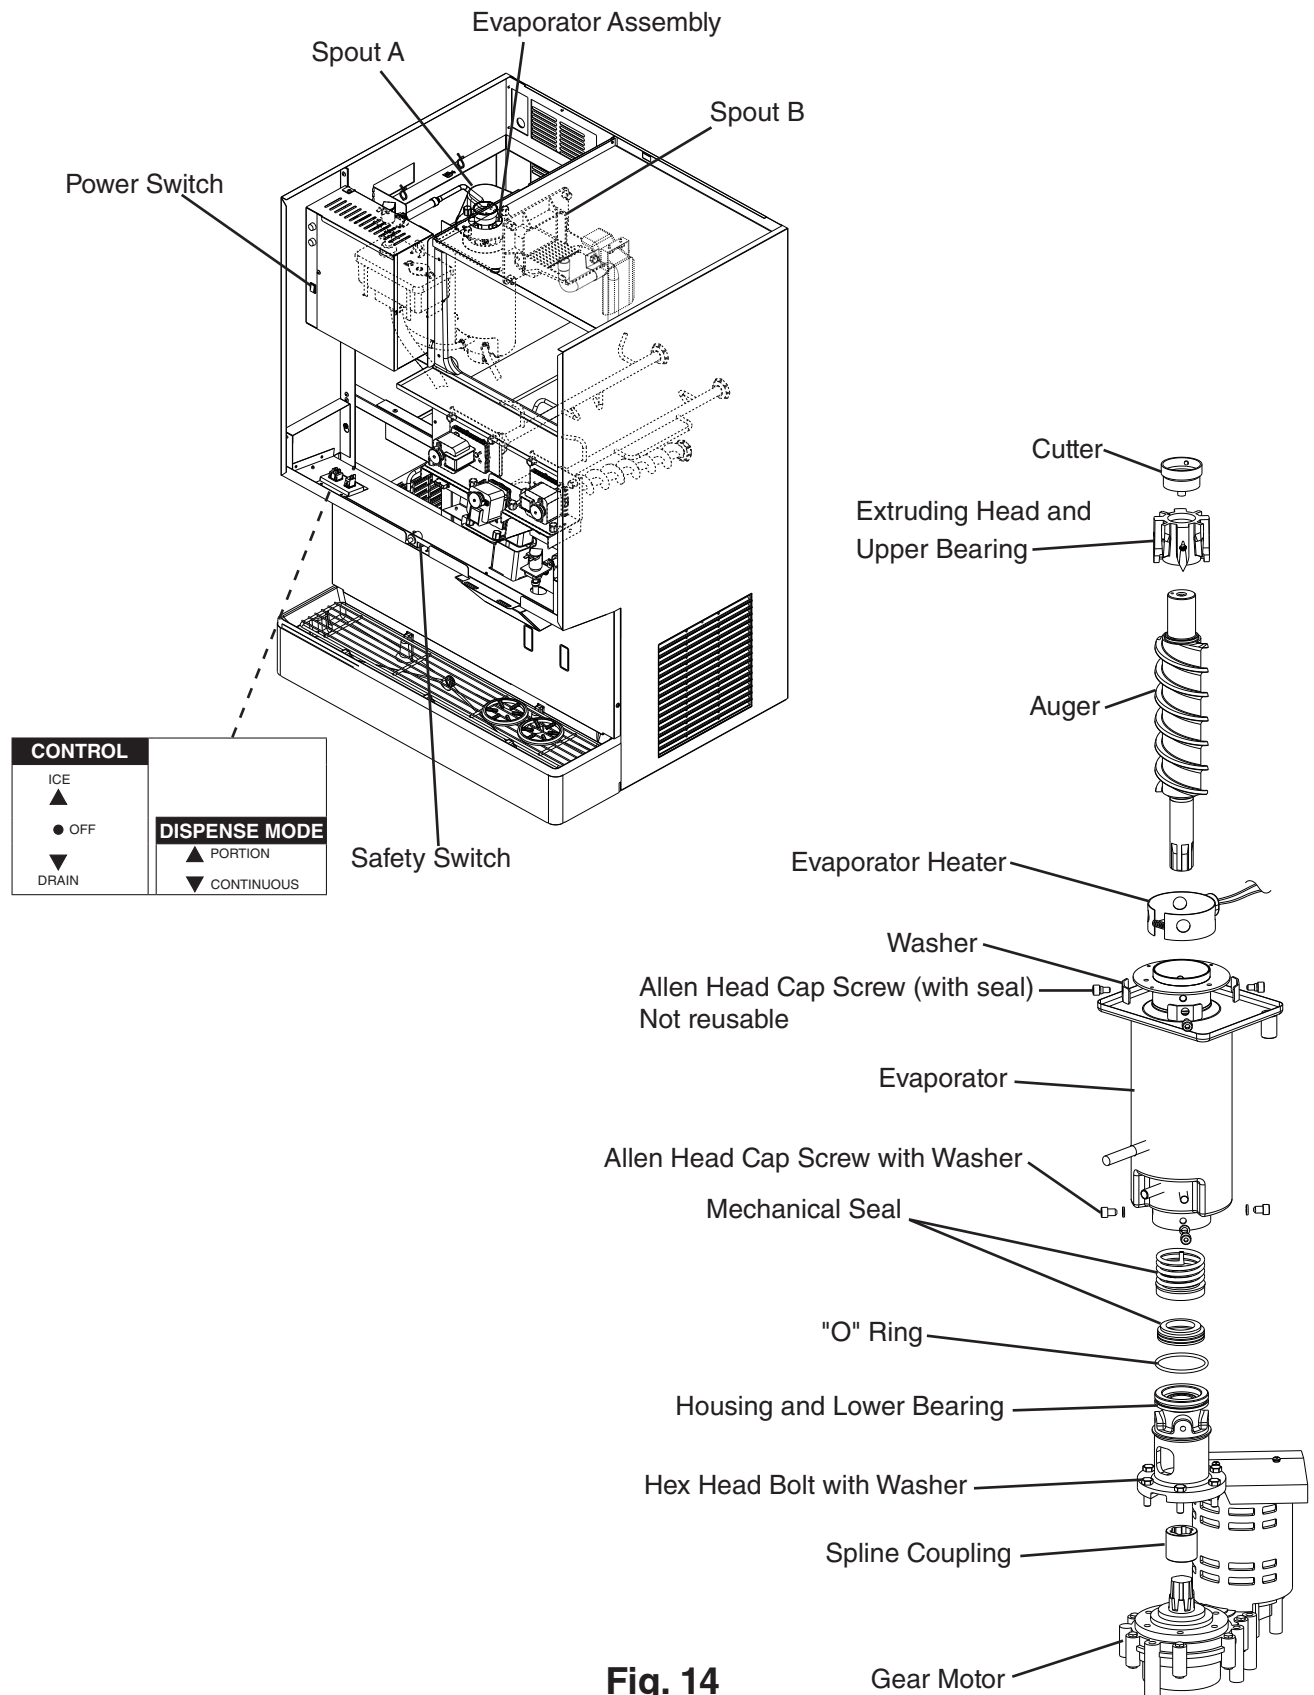

Fig. 14
When replacing a component listed below, see the notes to help ensure proper operation. See Fig. 14.
Evaporator Assembly Components. See Fig. 14.
- 2) Remove the storage bin cover. Remove spout B, then remove spout A and the cutter. See Fig. 14.
- 3) Remove the storage bin cover. Remove spout B, then remove spout A and the cutter. See Fig. 14.
- 3) Remove the storage bin cover. Remove spout B, then remove spout A. See Fig. 14.
- 5) Remove the storage bin cover. Remove spout B, then remove spout A. See Fig. 14.
- 3) Remove storage bin cover. Remove spout B, then remove spout A. See Fig. 14.